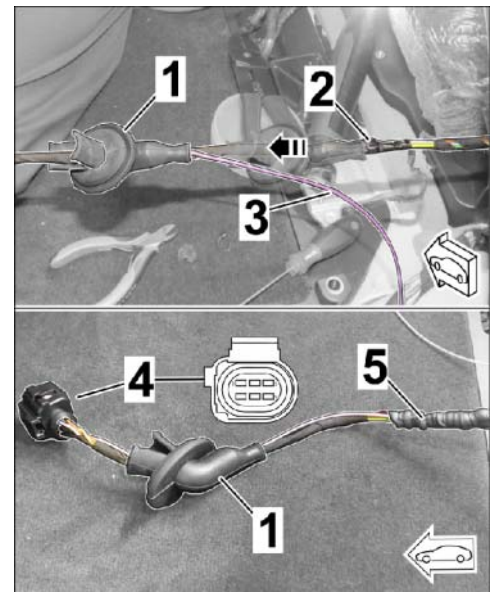

Figure 9
2.1.1 Tail light area, right (see also wiring diagram 12.2 – Vehicle exterior lighting, sheet 2) ⇒ *Figure 9*
- Carefully loosen the installed grommet on the branch (wire harness) and slide it towards the connector (6-pin). ⇒ *Figure 9-Top, arrow-*